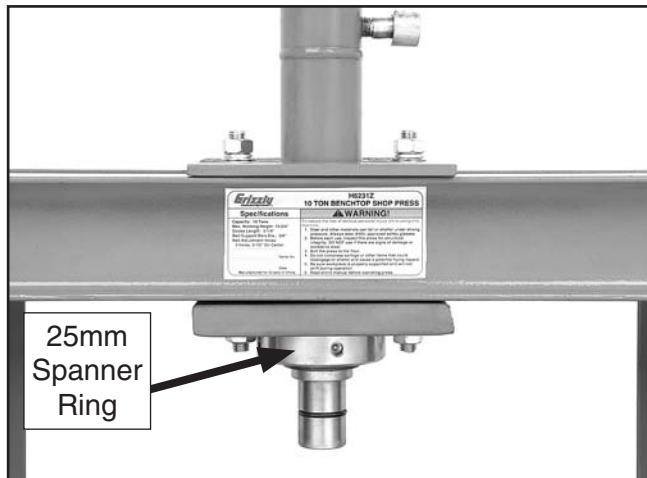

Figure 14. Spanner ring installation.
- Thread the 25mm spanner ring onto the piston housing as shown in **Figure 14** until it is tight. Then install the press pin onto the piston ram.